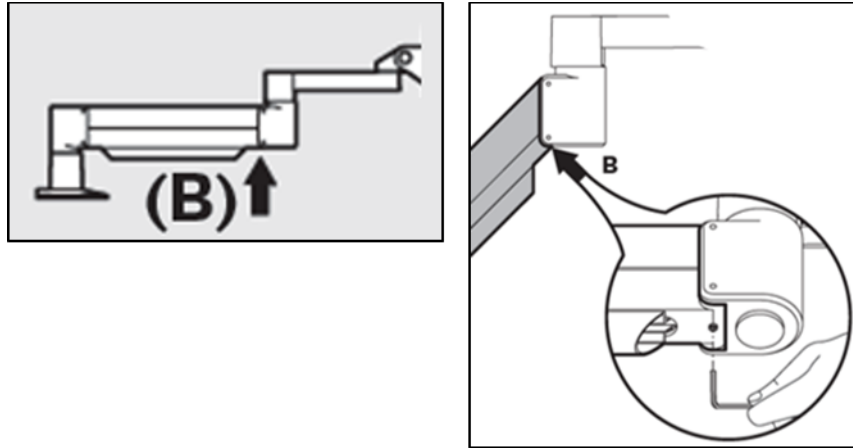

Figure 4-6. Loosen Counterbalance Set Screw B
- Reposition the arm horizontally. Loosen the upper Counterbalance Set Screw B by turning the screw at least a $\frac{1}{2}$ turn. Use a $\frac{3}{32}$ Allen Wrench. See Figure 4-6.
- Position the arm horizontally and tighten Counterbalance Set Screw B until contact is made, then tighten $\frac{1}{2}$ to $\frac{3}{4}$ revolutions. See Figure 4-6.